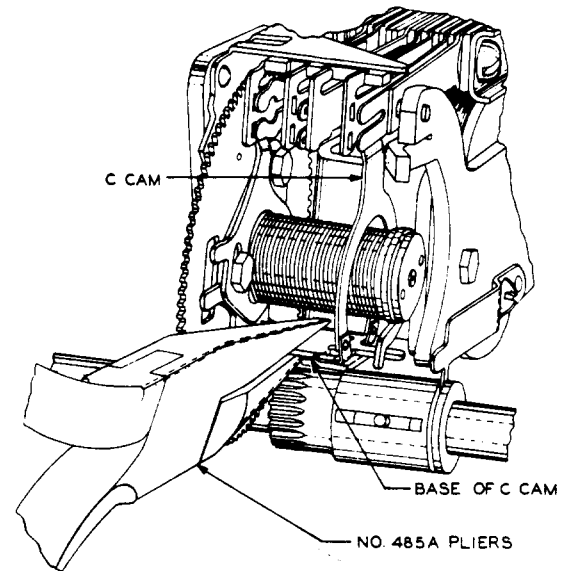

Fig. 26 - Method of Adjusting "C" Cam
(1) If the trailing edge of the "C" cam is not properly positioned with respect to the C spring fingers, loosen the "A" and "C" cam clamping screws with the No. 551A wrench. Rotate the gear as required to obtain access to the clamping screws. Adjust the position of the "C" cam with the KS-6854 screwdriver inserted in the slot at the front of the gear. Tighten the clamping screw securely which is associated with the "C" cam only. Now position the "A" cam as outlined in (2).
(2) To adjust the "A" cam loosen the two clamping screws which are common to both the "A" and "C" cams, unless they are already loosened, to adjust the "C" cam as outlined in (1). Position the "A" cam with the KS-6854 screwdriver inserted in the slot in the front of the gear and tighten the front clamping screw sufficiently to hold the cam in position. Check the "A" cam position and if correct, tighten both "A" cam clamping screws securely. If, however, the adjustment is not correct, loosen the front clamping screw and repeat the adjustment until the setting is correct.
(3) If the upper edge of the "C" cam is not properly positioned with respect to the C spring fingers, adjust the base to which the "C" cam is attached with the No. 485A pliers. Adjust the base of the "C" cam up or down, as required, with the pliers applied as near the timer gear as possible, as shown in Fig. 26.
(4) Adjust the position of the "C" cam with respect to the armature and C spring finger by rotating the timer gear 1/4 of a revolution and moving the "C" cam to the right or left by pressing on the cam near the top with the fingers. Move the cam until the right position is attained.
(5) If there is insufficient clearance between the "C" cam and the C spring finger on the bifurcated spring, adjust the tang on the "C" cam back contact spring with the No. 507A spring adjuster. Check that requirements 2.19(a), 2.20, 2.21(b), and 2.24 are met.